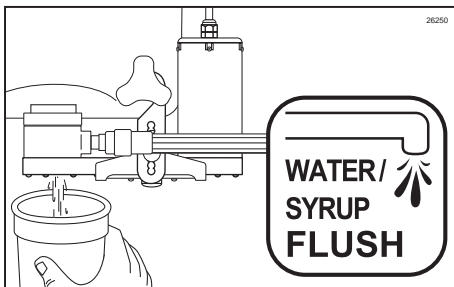

Figure 21
1. With a container under the dispensing spout, press the **WATER / SYRUP FLUSH** key on the Keypad to purge any remaining product from the Injector Head. (See Figure 21.)